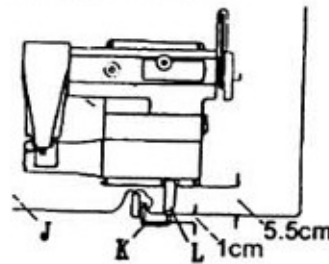

Fig.2
- b. Assemble Knee Lifting Bar K, Bushing L to long shaft. Tighten the bushing when 1 cm is obtained between the knee lifting bar and table (fig. 2).